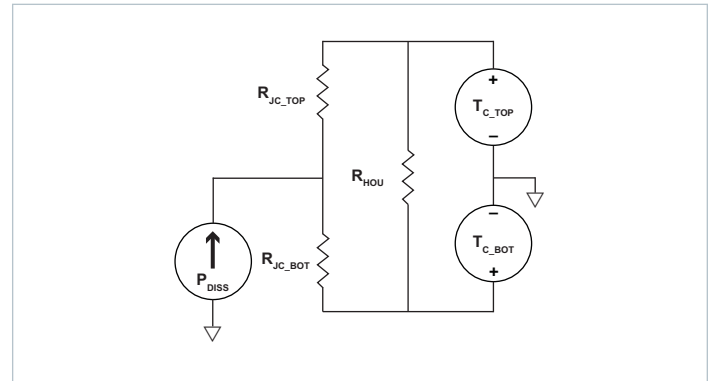
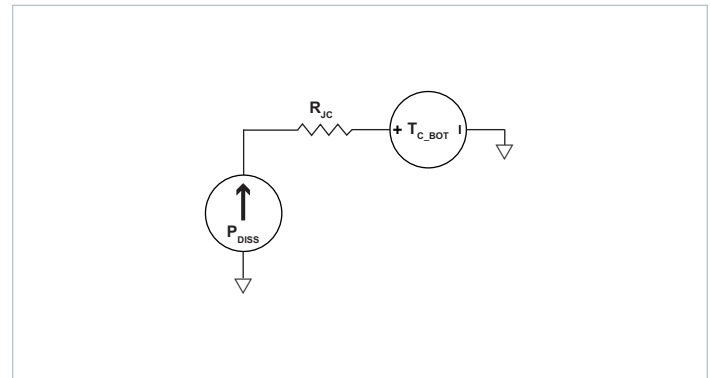

Figure 23 – Double sided cooling VIA thermal model
Figure 24 – Single-sided cooling VIA thermal model
to simplify the thermal solution into a roughly equivalent circuit where power dissipation is modeled as a current source, isothermal surface temperatures are represented as voltage sources and the thermal resistances are represented as resistors. Figure 23 shows the "thermal circuit" for the VIA module.
- Single side cooling: the model of Figure 23 can be simplified by calculating the parallel resistor network and using one simple thermal resistance number and the internal power dissipation curves; an example for bottom side cooling only is shown in Figure 24.